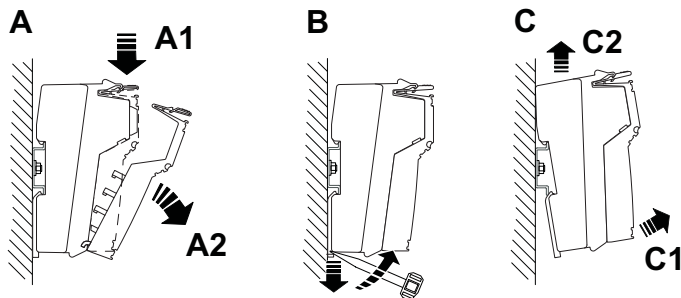

Figure 2-15 Removing the Inline controller
When removing the Inline controller, proceed as shown in Figure 2-15 on page 2-20:
- Lever up each connector by pressing on the back connector shaft latching (Figure 2-15, A1).
- Remove the connectors (Figure 2-15, A2).
- Insert a tool in the base latches of the Inline controller and pull gently upwards (Figure 2-15, B). Pull out the Inline controller from the DIN rail (C1, C2).